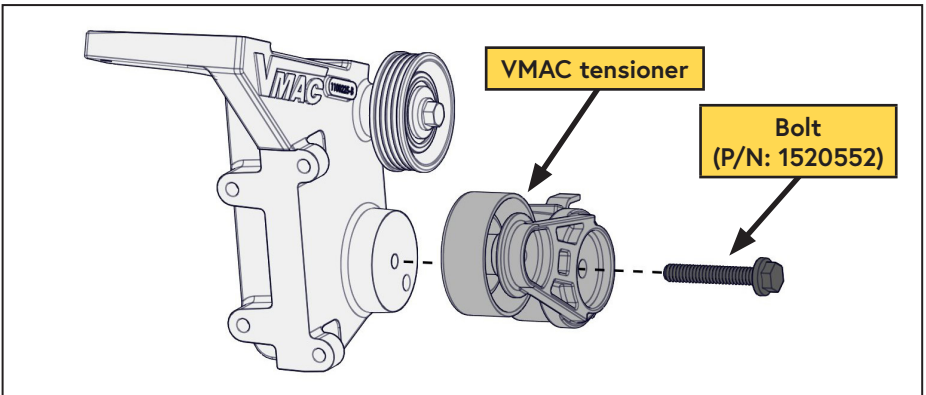

Figure 24 — Mount tensioner
- Install the tensioner on the main bracket (Figure 24).